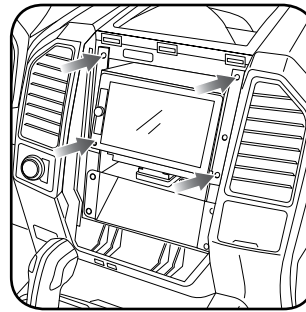

Fig. 1.0
6. Insert the radio into the dash and secure the metal brackets with (4) 7mm bolts. (Fig. 1.0)